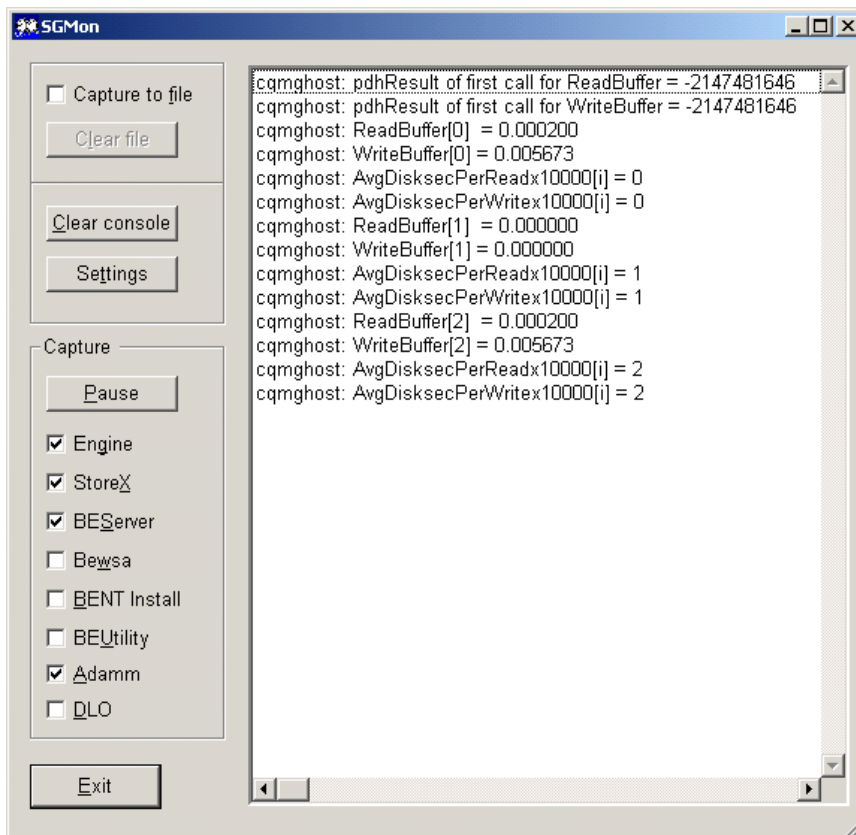

Figure 3 SGMon utility
- To output the information to a file, select **Capture to File**. This will output the information to a file located under `\Program Files\Symantec\Backup Exec\Logs\{(Server Name)-SGMon.log}`. See Figure 3.